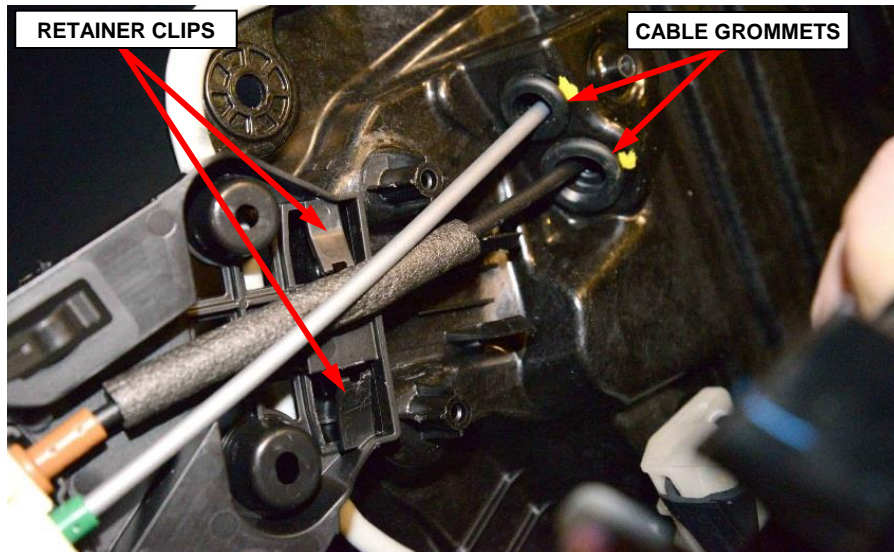

Figure 19 – Door Latch Retainer Clips
34. Release the door latch retaining clips then remove the door latch from the carrier plate (Figure 19).
54. Align the door latch to the carrier plate then fully secure the door latch with the retaining clips (Figure 19).